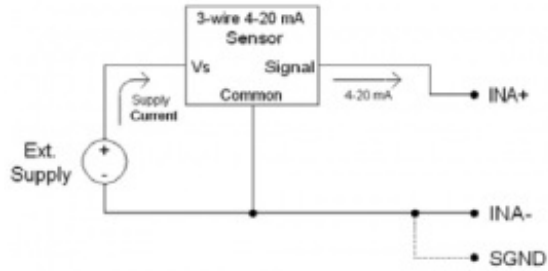

Figure 4: 3-Wire Sourcing Sensor w/ Ext. Supply
- Note the discussion above about having a common reference. When you are using external supplies (Figures 4, 6, 7 and 8), those supplies must be referred to LabJack GND. If the supplies are not already referred (the DC output of an AC-DC supply is usually floating), make one connection from the common/negative of each power supply to SGND or GND on the LJTCs or LabJack.